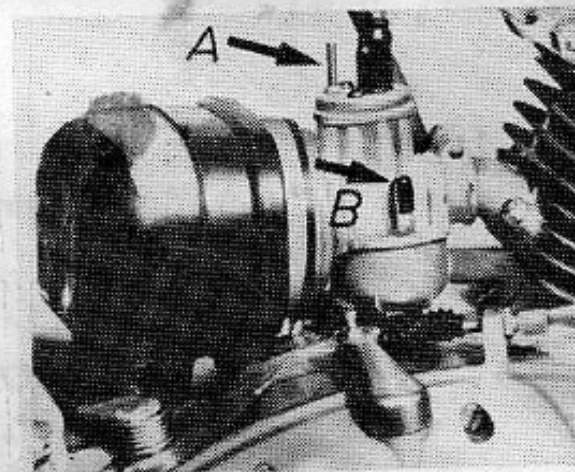

Fig. 12
To start the engine, depress button «B» (fig. 12). This action causes the chamber to fill and eventually spill over. For easy starting in very cold weather, depress choke pin «A» (Fig. 12).
Depress button «B» until the carburettor is full (Fig. 12).
- In very cold weather, the choke pin not having been depressed, A (fig. 12).